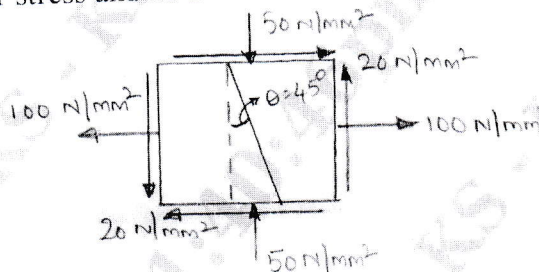

Fig. Q1 (c)
- c. At a point in a stressed body, the stresses act are shown in Fig. Q1 (c). Determine the value of
- b. A four bar mechanism shown in Fig.Q1(b) has crank 2 driven by an input torque  $T_2$  ; an external load  $P = 50\text{ N}$  acting at point E on link 3. For the position shown in figure, find the magnitude and direction of torque  $T_2$  for the linkage to be in static equilibrium.